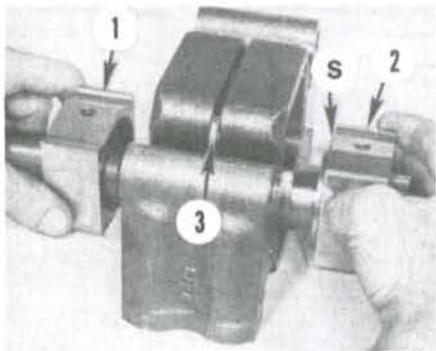
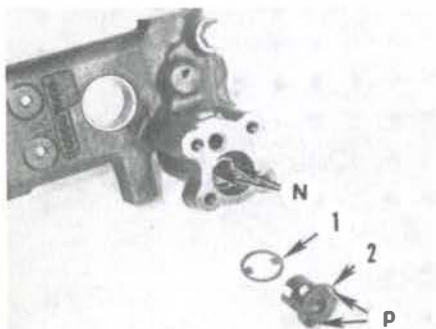

Fig. 234—Be sure that cam block (2) with shoulder (S) is over widest (front) cam lobe and shoulder faces inward. Cam follower (3) goes towards bottom of pump.
Fig. 235—Notches (N) in valve sleeve must be positioned horizontally in valve body and pins (P) in spacer (2) must be vertical to pump.
piston yokes face away from each other. Be sure cam block (2—Fig. 234) with shoulder (S) is over widest (front) cam lobe and shoulder faces inward as shown. Be sure cam follower (3) is towards bottom of pump. Notches (N—Fig. 235) in end of valve sleeve must be aligned horizontally in valve bore and pins (P) in spacer (2) must be vertical to pump body. Lockplate (1) fits into notches of sleeve and spacer. Tighten pump body stud nuts to 41-47 N·m (30-35 ft.-lbs.) torque. Be sure camshaft rotates freely.